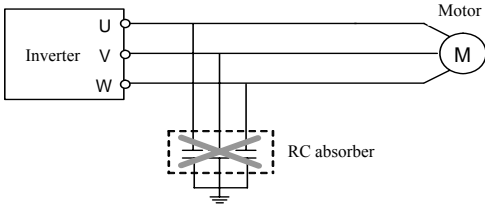

Figure 3-1 Forbidding connecting a RC absorber at the output terminal
- (1) Make sure intermediate circuit breaker is connected between the frequency inverter and power supply to avoid expanded accident when the frequency inverter is faulty.
- (2) In order to reduce electromagnetic interference, please connect surge absorber on the coil of electromagnetic contactor, relay and etc. in the surrounding circuit of the frequency inverter.
- (3) Please use shielded wire of above 0.3mm^2 for the wiring of such analog signals as frequency setting terminal AI and instrument loop (AO), etc. The shielding layer shall be connected on the grounding terminal E of the frequency inverter with wiring length less than 30m.
- (4) The stranded wire or shielded wire of above 0.75mm^2 shall be selected for the wiring of input and output loop (X1-X4) of relay; and the shielded layer shall be connected to the common port CM of control terminals, with wiring length less than 50 m.
- (5) The control wire shall be separated from the power line of major loop; it shall be at a distance of above 10cm for parallel wiring and vertical for cross wiring.
- (6) The connecting wire between the inverter and the motor shall be less than 30m; and when it is longer than 30m, the carrier frequency of the inverter shall be appropriately reduced.
- (7) All leading wires shall be fully fastened with terminals to ensure good contact.
- (8) The pressurization of all the leading wires shall be in compliance with the voltage class of the frequency inverter.
- ◇ Absorption capacitor or other RC absorbers shall not be installed at U, V and W output end of the frequency inverter, as shown in figure 3-1.